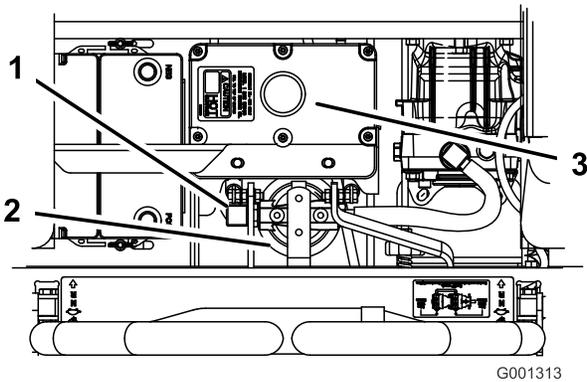

Figure 74
- Remove the right-hand hydraulic line that comes into the adapter (Figure 74).
- Install the right-hand hydraulic line to the adapter (Figure 74).